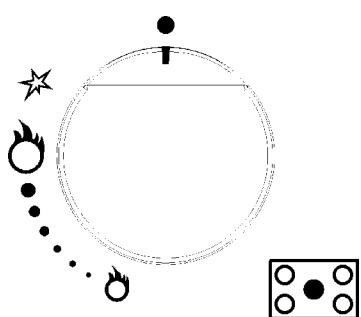

FIG. 1
Push and turn the knob corresponding to the required burner in an anticlockwise direction until it reaches the full on position (large flame fig. 1), then place a lighted match near the burner.
Push and turn the knob corresponding to the required burner in an anticlockwise direction until it reaches the full on position (large flame fig. 1), then depress and release the ignition button "E".
Push and turn the knob corresponding to the required burner in an anticlockwise direction until it reaches the full on position (large flame fig. 1), then depress the knob.
The knobs of burners equipped with flame failure device must be turned in an anticlockwise direction until they reach the full on position (large flame fig. 1) and come to a stop. Now depress the knob in question and repeat the previously indicated operations.
- When the pan comes to the boil, set the knob to the reduced rate position (small flame fig. 1).
- *Burners with flame failure device may only be ignited when the relative knob has been set to the Full on position (large flame fig. 1).*